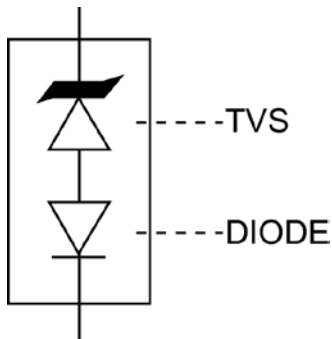
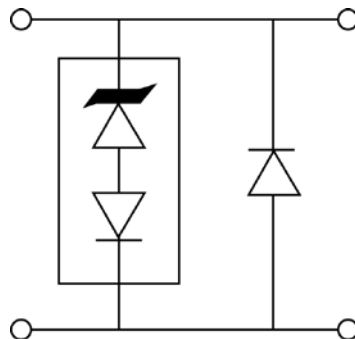

Figure 4
Figure 5
1. With impulse repetition rate (duty factor) of 0.01 % max. TVS devices are not typically used for dc power dissipation and are instead operated ≤ V_{WM} (rated standoff voltage) except for transients that briefly drive the device into avalanche breakdown (V_(BR) to V_C region) of the TVS element. Also see Figures 5 and 6 for further protection details in rated peak pulse power for unidirectional and bidirectional configurations respectively.
The TVS low capacitance device configuration is shown in Figure 4. As a further option for unidirectional applications, an additional low capacitance rectifier diode may be used in parallel in the same polarity direction as the TVS as shown in Figure 5. In applications where random high voltage transients occur, this will prevent reverse transients from damaging the internal low capacitance rectifier diode and also provide a low voltage conducting direction. The added rectifier diode should be of similar low capacitance and also have a higher reverse voltage rating than the TVS clamping voltage V_C . The Microsemi recommended rectifier part number is the "SMBJLCR60" for the application in Figure 5. If using two (2) low capacitance TVS devices in anti-parallel for bidirectional applications, this added protective feature for both directions (including the reverse of each rectifier diode) is also provided. The unidirectional and bidirectional configurations in Figure 5 and 6 will both result in twice the capacitance of Figure 4.